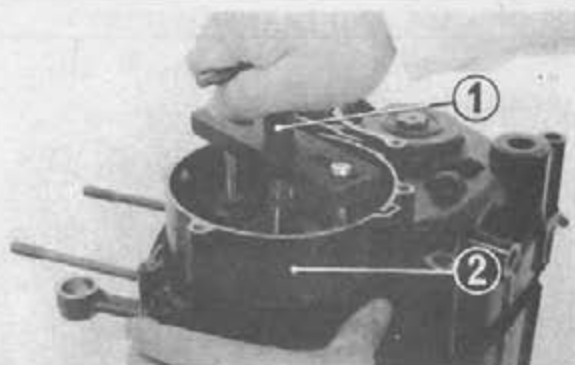

Fig. 3-56 (1) Crankcase disassembly tool
10. Bolt the crankcase disassembly tool (Tool No. 07937-3600000) to the left crankcase as shown in Fig. 3-56. Turn the screw of the tool against the end of the crankshaft to separate the cases.